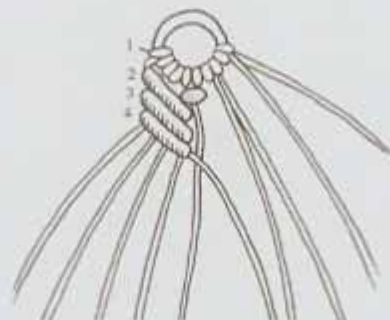

Fig. 3
6. Repeat the same steps for **Rows 3 & 4** (see Figure 3). You will use the outermost cord as the **AC** for each row.